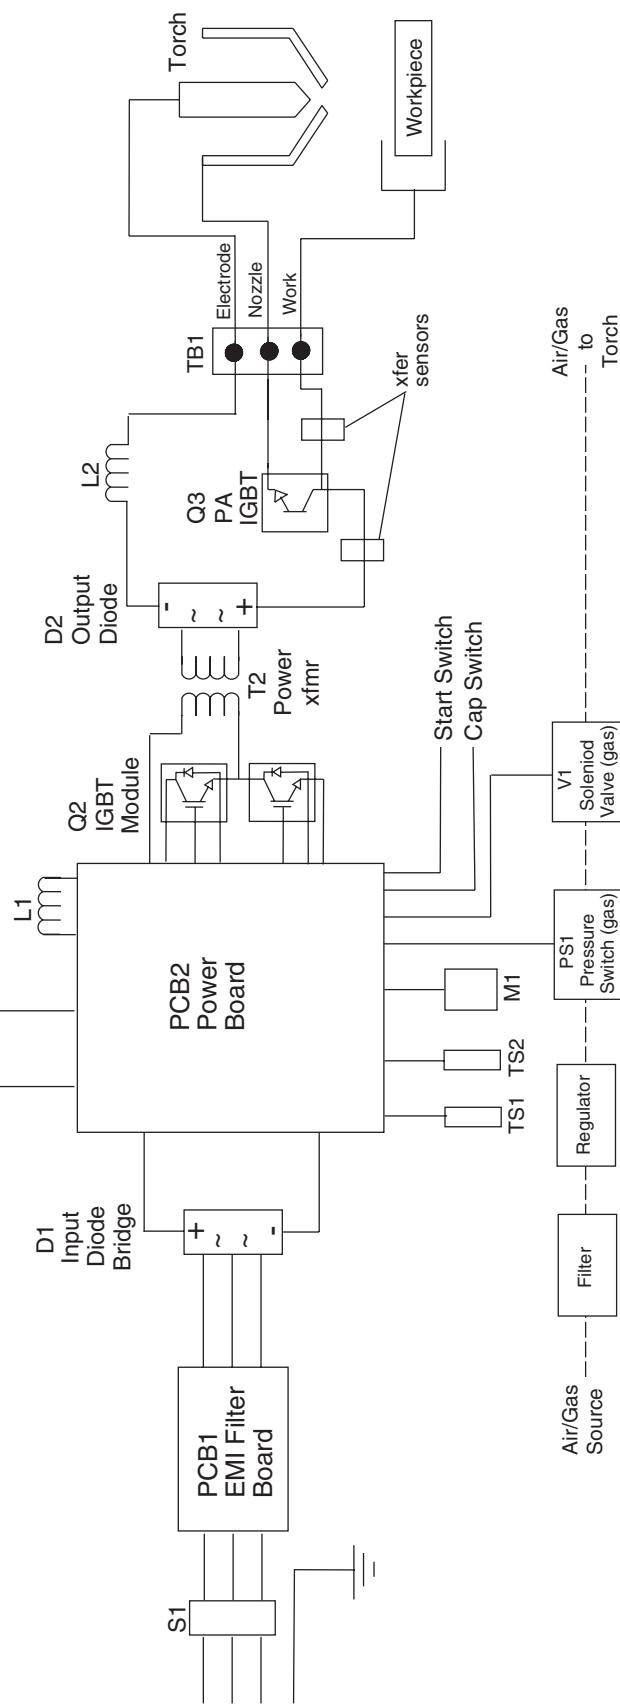

Figure 3-2.1 Powermax600 230/400 Volt Block Diagram
Refer to Functional Description, Figures 3-2.1 and 3-2.2, Sequence of Operation and the system wiring diagram.
**See Figure 3-2-1.**